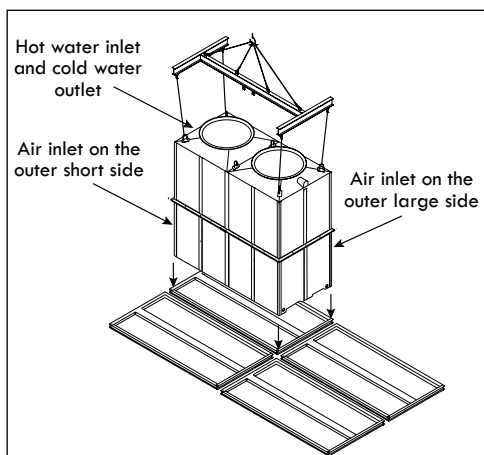

Figure A-75: X-Orientation - First T2 module lifting and installation (RTM or RTPM Models)
- A.** Once the basin and body sections have been assembled, lift the Tower using a crane and a spreader bar and place it on top of the isolation pad and the steel base structure (see figure A-75).
- B.** Make sure that the water inlet and outlet are facing outward, and the sides without air inlets (louvers) are facing inward. Secure it with the stainless steel nut and bolts sets (supplied by others) as shown on Figure A-75.